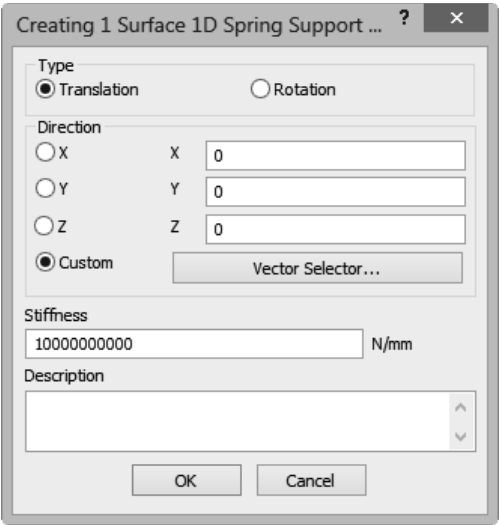

Figure 8-96 The Creating Surface 1D Spring Support Element dialog box
4. Choose the **1D Spring Support** tool from the **Constraints** panel of the **Setup** tab in the **Ribbon**; the **Creating Surface 1D Spring Support Element** dialog box is displayed, as shown in Figure 8-96.
5. Make sure that the **Translation** radio button is selected in the **Type** area and the **Custom** radio button is selected in the **Direction** area of the dialog box, refer to Figure 8-96.